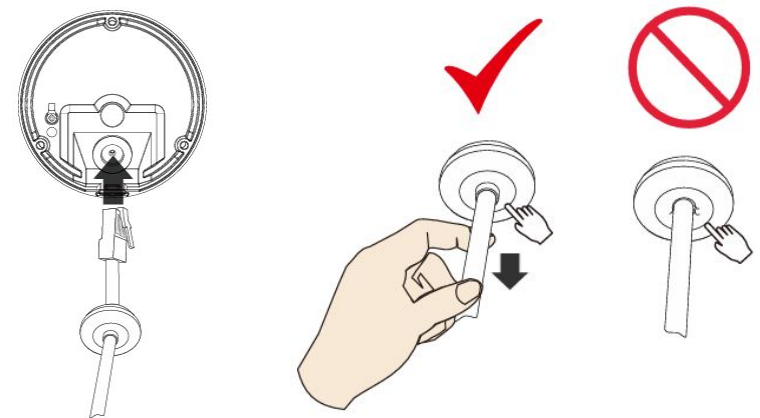

Figure 1-4
**Step 4** Thread cables through the grommet, then reinstall the grommet and make your connections. See Figure 1-4.